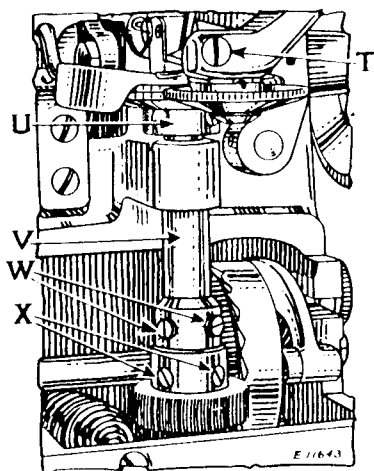

Fig. 9
On Machines 176-13 and 176-14, the feeding disc (U, Fig. 9) may be raised or lowered after loosening the four set screws (W and X, Fig. 9). When adjustment is made, see that the gear is down against its seat before tightening the two screws (X) in the gear. Then slide the sleeve (V) upward against the casting and tighten the two set screws (W).
On Machine 176-14, the idler disc may be slid up or down after loosening the clamp screw (T, Fig. 9). See that the needle guard groove is in line with the needle before tightening the clamp screw.